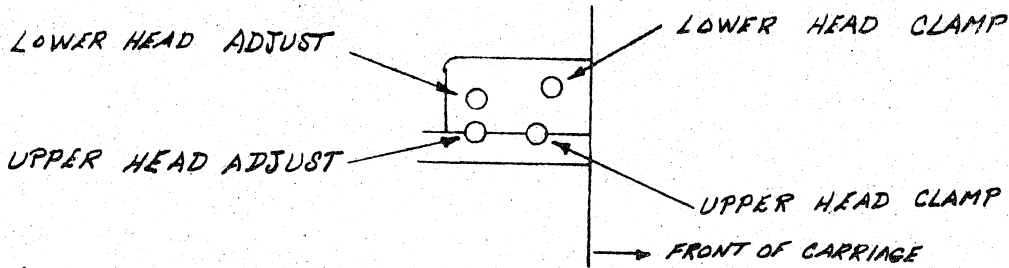

Figure 10: Head Screw Locations
- c) Noting the direction of alignment error, loosen the head clamping screw. (See Figure 10). If the head is to be moved backward, also unscrew the adjustment screw slightly and force the head back, noting the change of pattern. The adjustment screw is used as a vernier to move the head forward.
- f) Screw a pair of head adjusting screws slightly into the rear holes of the carriage (Figure 10). Clamping screws must not be in place.
carriage. (See Figure 10)
- c) Remove the head clamping screws. See Figure 10.